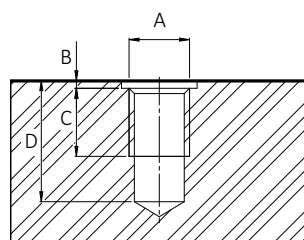

Figure 58: Mounting threads for Scientific Design models
1. Mount the camera to the base using suitable M4 screws at 2.7 Nm maximum torque for a thread engagement (C) of 6 mm between screws and mounting threads, see Figure 58. For details, see your model's technical drawings.